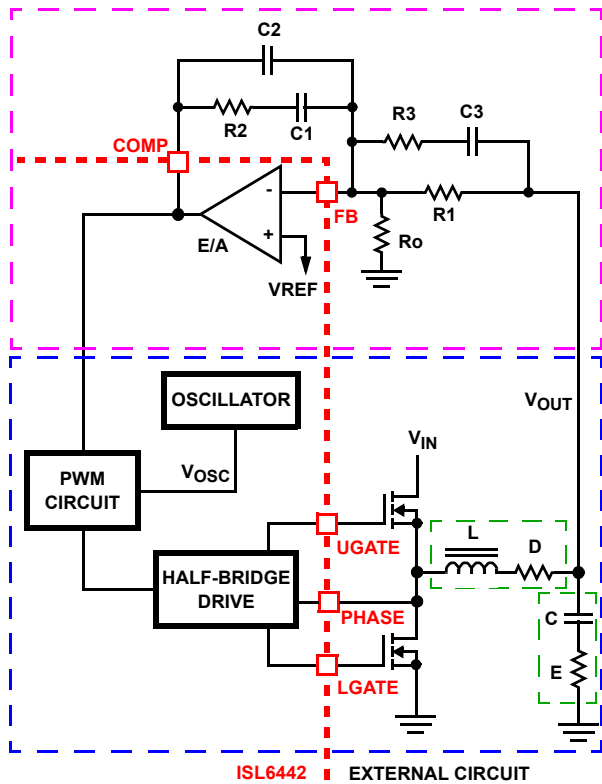

FIGURE 14. VOLTAGE-MODE BUCK CONVERTER COMPENSATION DESIGN
Figure 14 highlights the voltage-mode control loop for a synchronous-rectified buck converter, applicable to the ISL6442 circuit. The output voltage (V_{OUT}) is regulated to the reference voltage, V_{REF} . The error amplifier output (COMP pin voltage) is compared with the oscillator (OSC) modified sawtooth wave to provide a pulse-width modulated wave with an amplitude of V_{IN} at the PHASE node. The PWM wave is smoothed by the output filter (L and C). The output filter capacitor bank's equivalent series resistance is represented by the series resistor E.
The compensation network consists of the error amplifier (internal to the ISL6442) and the external R1-R3, C1-C3 components. The goal of the compensation network is to provide a closed loop transfer function with high 0dB crossing frequency (F_0 ; typically 0.1 to 0.3 of F_{SW}) and adequate phase margin (better than 45°). Phase margin is the difference between the closed loop phase at F_{0dB} and 180° . The equations that follow relate the compensation network's poles, zeros and gain to the components (R1, R2, R3, C1, C2, and C3) in Figure 14. Use the following guidelines for locating the poles and zeros of the compensation network:
1. Select a value for R1 (1k Ω to 5k Ω , typically). Calculate value for R2 for desired converter bandwidth (F_0). If setting the output voltage via an offset resistor connected to the FB pin, R_o in Figure 14, the design procedure can be followed as presented.